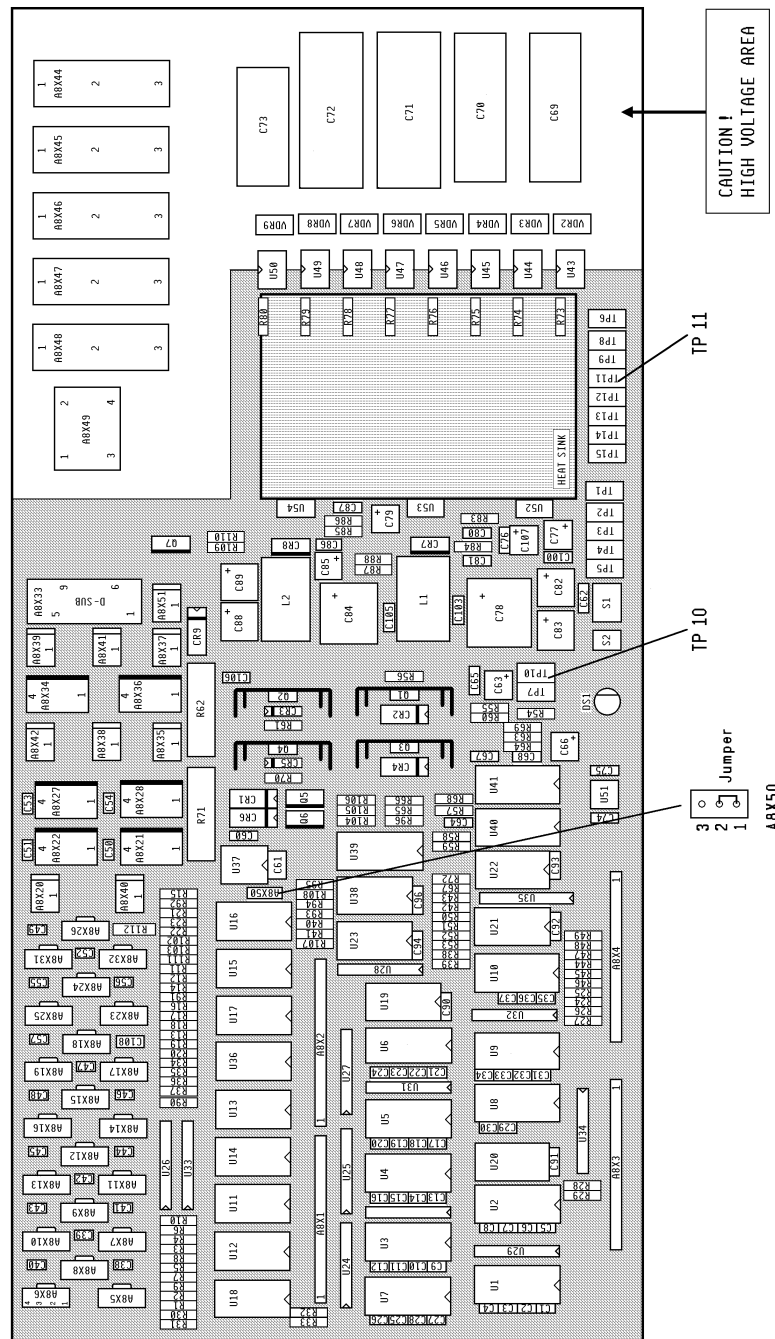

figure 16
4. Connect the DVM to TP11 on PCB A8 and to TP10 (GND PE) on PCB A8 (figure 16, next page).